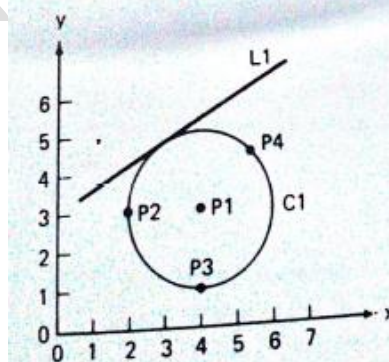

FIGURE A8.1
3. By the center point and tangent to a line. See Figure A8.1.
4. By three points on the circumference. See Figure A8.1.